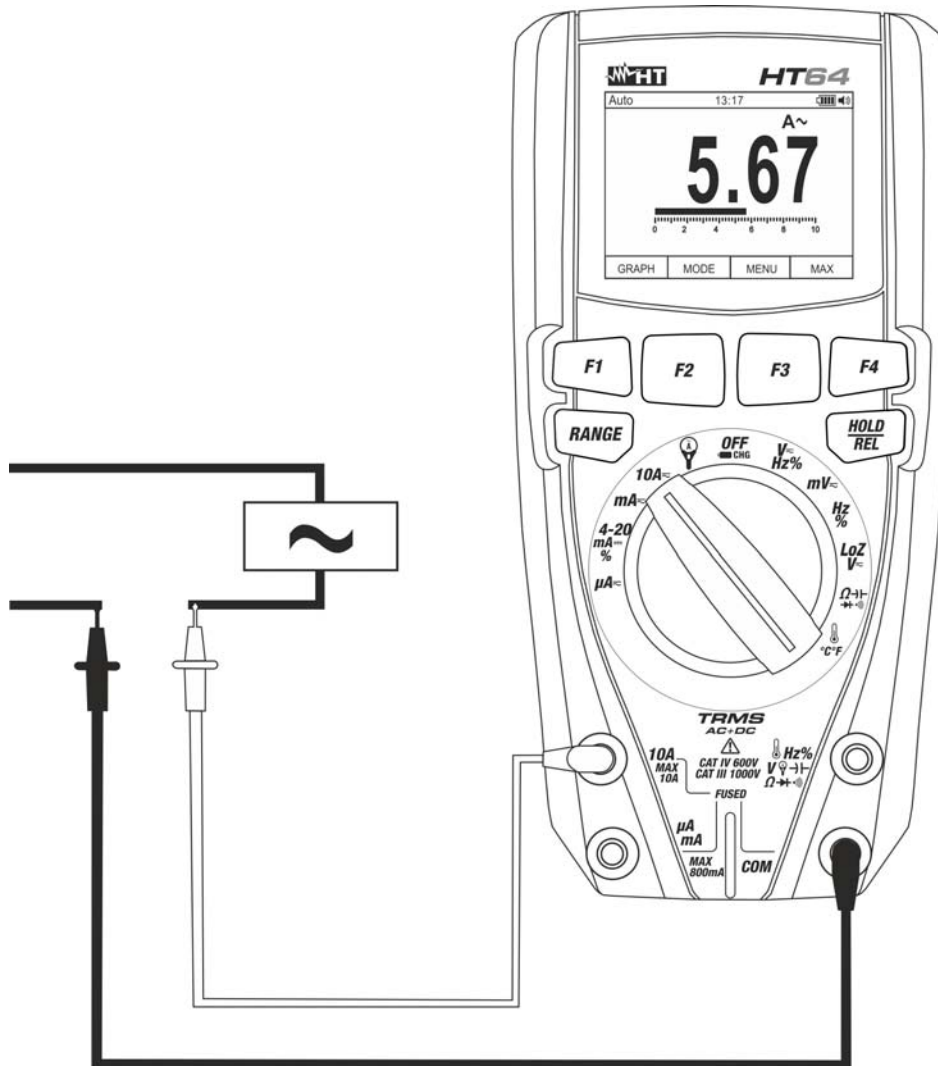

Fig. 31: Use of the instrument for AC current measurement
5. Connect the red lead and the black lead in series to the circuit whose current you want to measure (see Fig. 31).